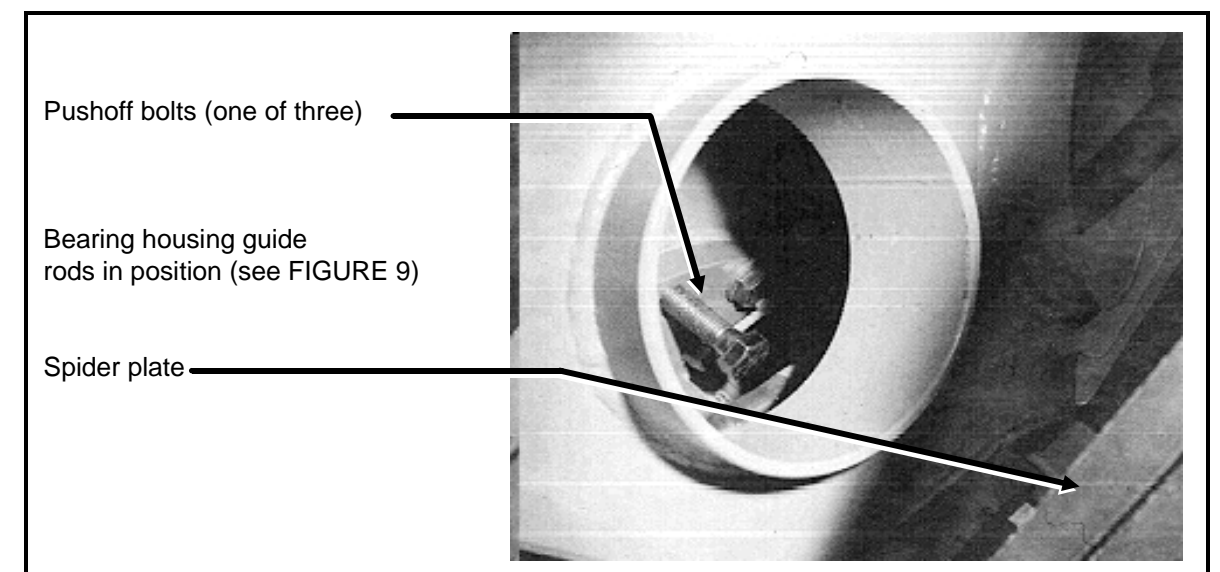

FIGURE 8 (MSSMA403AE)
4. Install the three bearing housing guide rods into three of the bolt holes in the bearing housing center flange and install these bolts into the threaded push-off holes in the center flange, as shown in FIGURE 8.